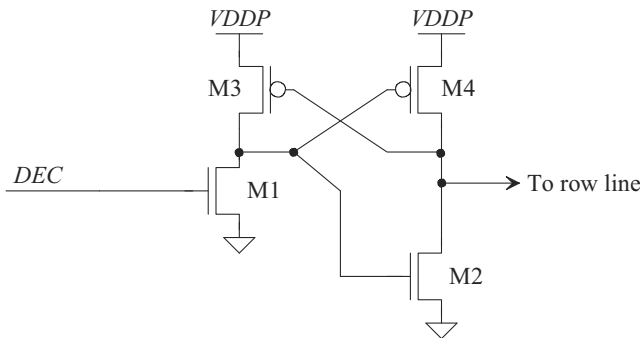

Figure 16.74 A (bad) CMOS word line driver, Problem 16.12.
- 16.12** Suppose that it is suggested that the word line driver in Fig. 16.46 be modified to simplify it as seen in Fig. 16.74. What is the problem with this design? Use SPICE to illustrate the driver not functioning properly.